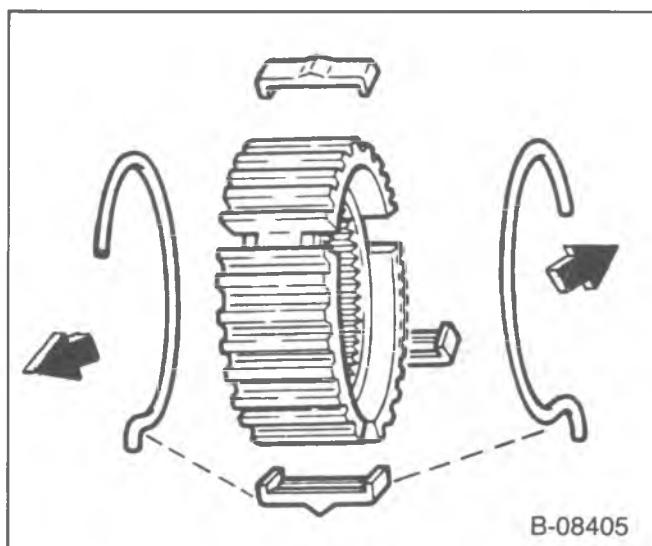

Figure 131—Synchronizer Spring Location
- Engage the springs in the same key with the open ends away from each other, (figure 131).